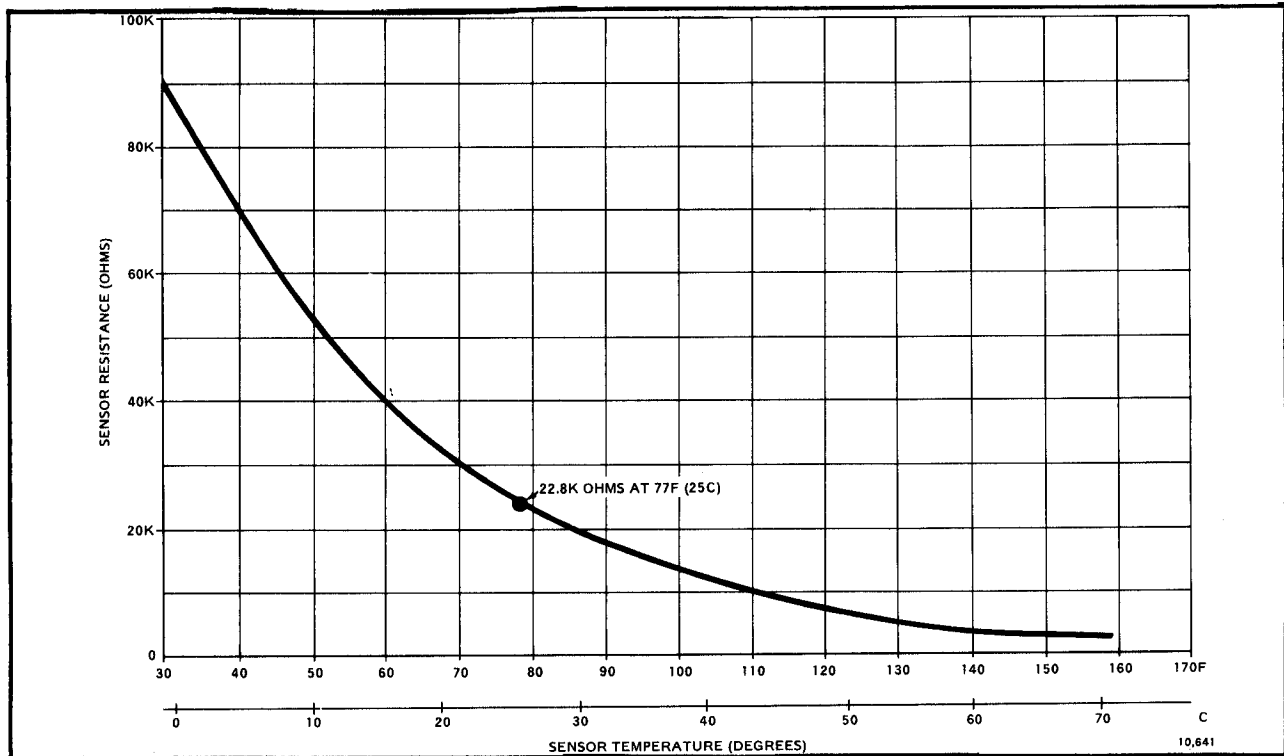

FIG. 8—CHANGE IN RESISTANCE WITH CHANGE IN TEMPERATURE FOR THE THERMISTOR IN THE C7100B, C7046B, AND T7047C1082.
8. Connect duct sensor between terminals (1) and (3), connect remote sensor between terminals (5) and (6) for T7080B.	—
15. Jumper terminals (1) and (3).	Voltage should increase above voltage noted in step 13.
16. To check the resistance of the remote thermistor sensor or the discharge air sensor, disconnect one lead from each of the sensors and connect an ohmmeter across each of the sensors.	Resistance should roughly correspond with that given in the chart on page 7 and/or Fig. 8.